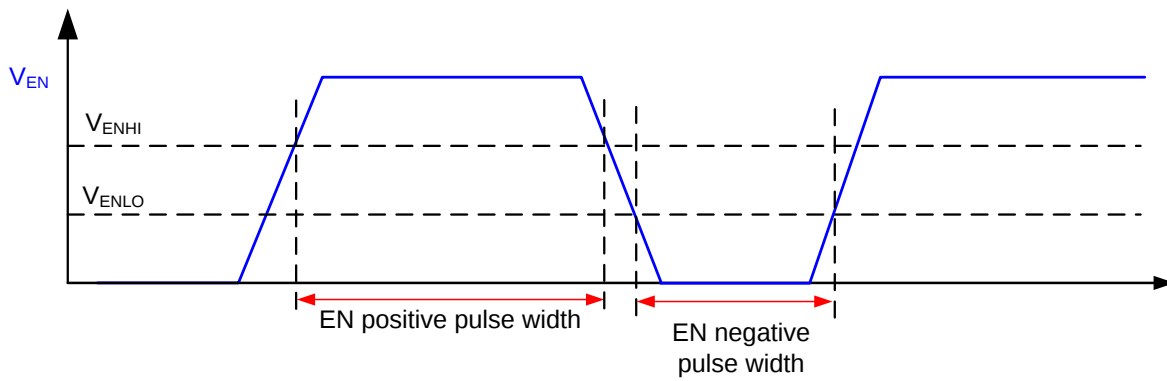

Figure 12B: Enable timing waveform
This pin is used to activate the IC "sleep" mode by pulling the voltage level below 1.6V (typ). In sleep mode the IC will consume a minimum amount of current. All switching functions will be disabled and the gate will be inactive. The EN pin voltage cannot linger between the Enable low and Enable high thresholds. The pin is intended to operate as a switch with the pin voltage either above or below the threshold range. The Enable control pin (EN) is not intended to operate at high frequency. For proper operation, EN positive pulse width needs to be longer than 20μs, EN negative pulse width needs to be longer than 10μs. Please refer to Figure 12B for the definition of EN pulse width.